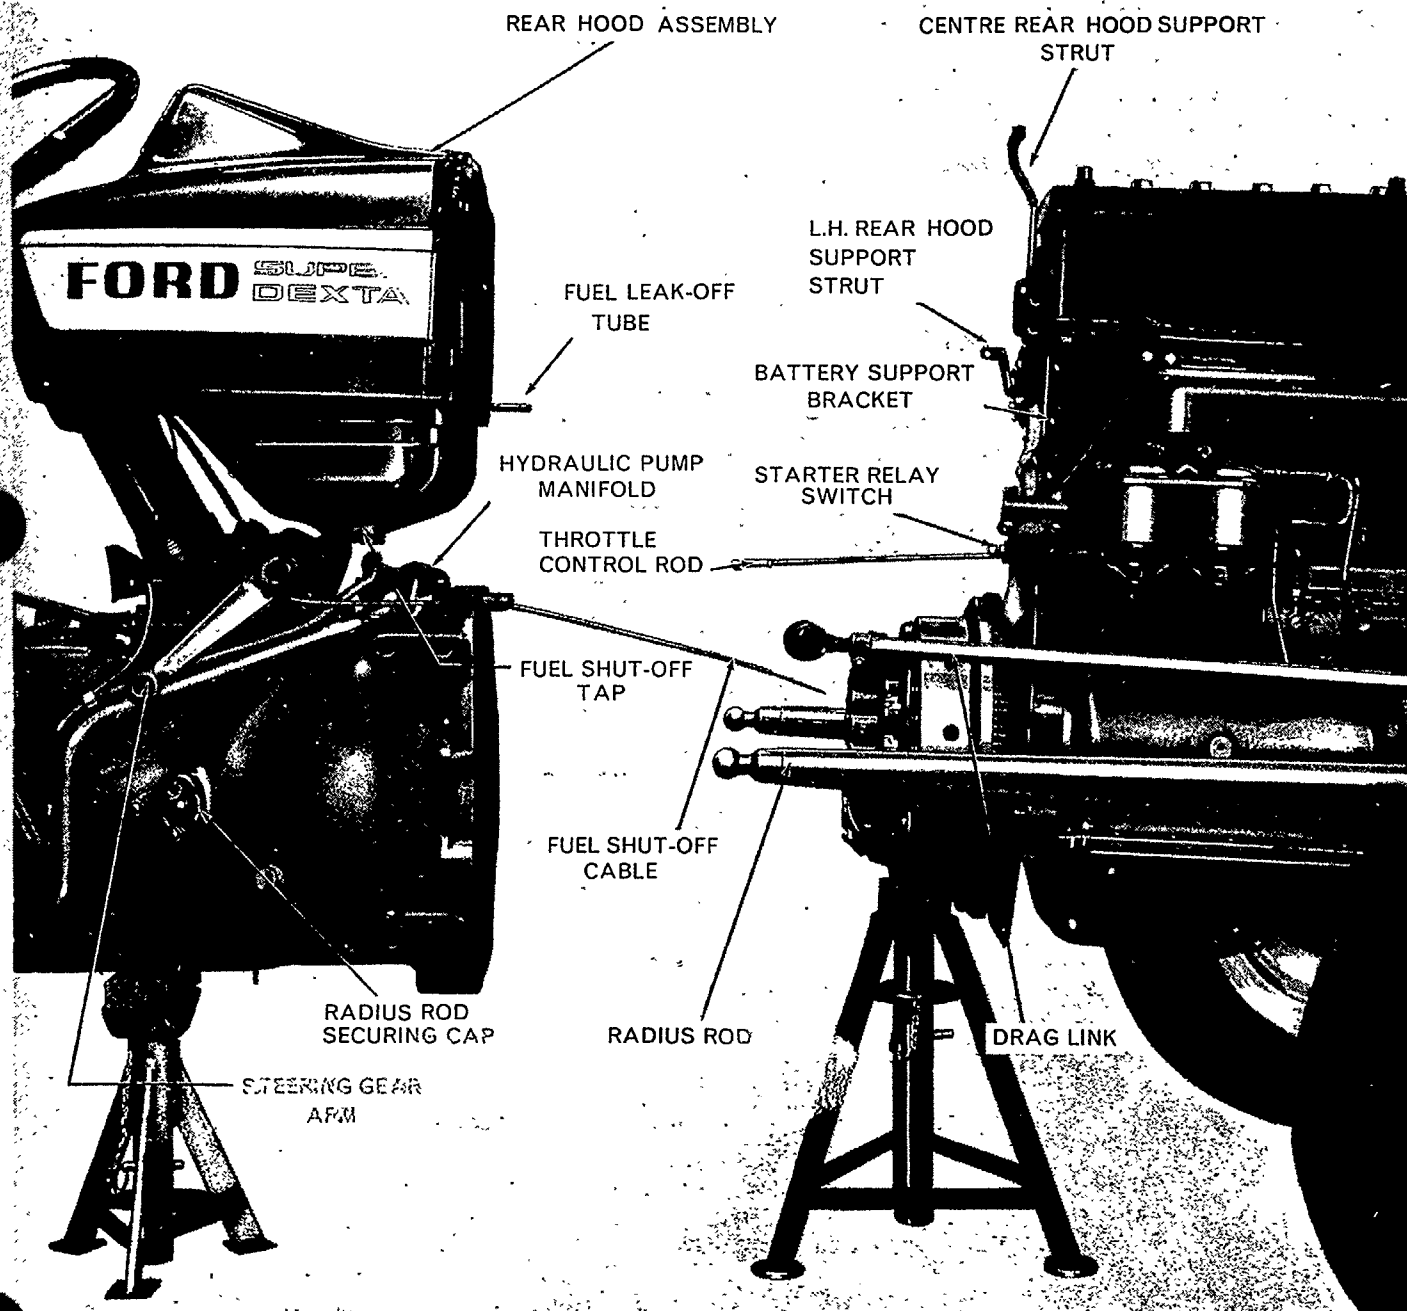

Figure 2
16. Disconnect the remaining three wiring leads from the starter relay terminals. (See item 20 regarding tractors with 'C' prefix.)
17. Remove the spring clip from the horizontal throttle rod, Figure 2, and disconnect the rod from underneath the fuel tank.
18. Disconnect the fuel shut-off cable, Figure 2, at the arm on the fuel injection pump. (Choke control on gasoline engines.)
19. Disconnect the fuel leak-off tube, Figure 2, by loosening the screw clamp situated above the fuel tank.
21. Disconnect the wiring to the terminals on the regulator. (See item 20 regarding tractors with 'C' prefix.)
22. Turn the fuel tap, Figure 2, to the 'off' position and disconnect the fuel tank to fuel filter pipe at the fuel tap.
7. Reconnect the wiring to the regulator terminals (see item 6 regarding tractors with 'C' prefix).
8. Reconnect the engine shut-off cable, Figure 2, on diesel engined tractors, to the arm on the fuel injection pump. Allow approximately $\frac{1}{4}$ in. (6.35 mm) free movement of the cable at the control panel. (Reconnect the choke control cable on gasoline engines.)
16. Reconnect the horizontal throttle control rod, Figure 2, to the relay cross-shaft situated on the right-hand side underneath the fuel tank.
19. Position the left-hand and centre rear hood assembly support struts, Figure 2, and install the respective nuts, bolts and washers.